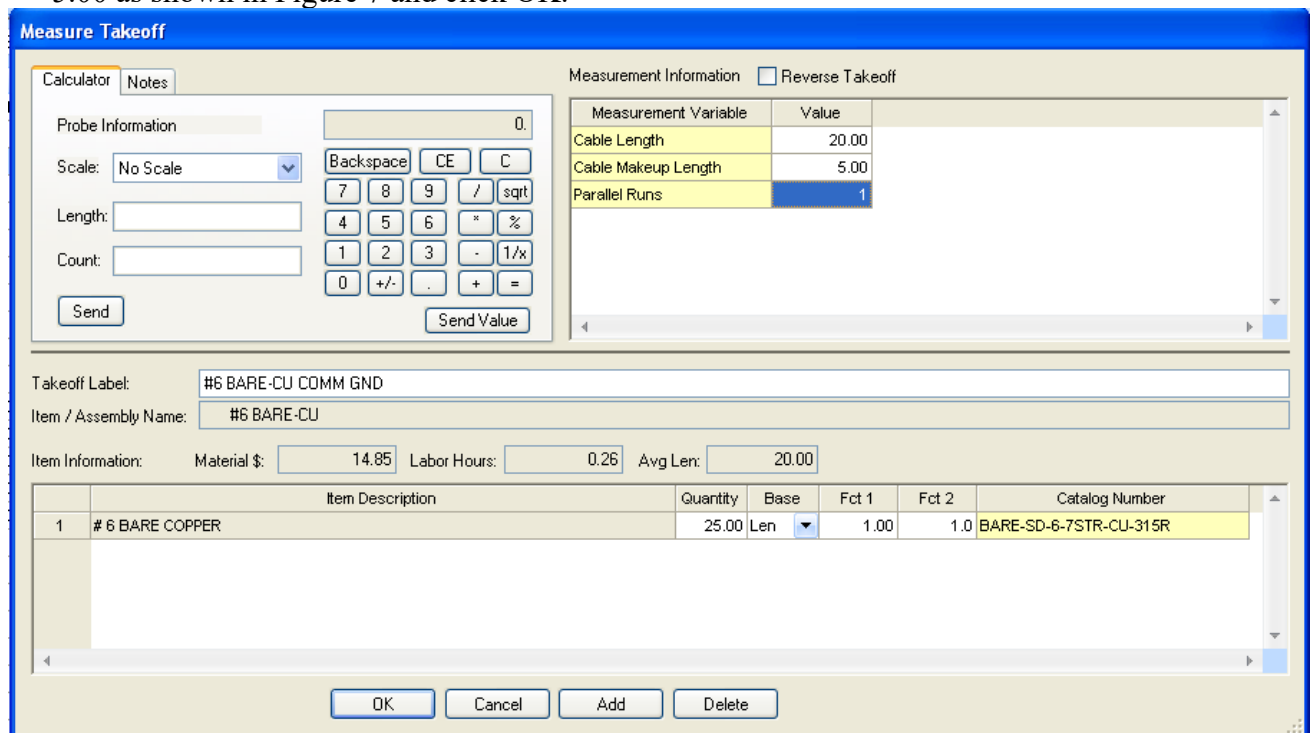

Figure 7
14. In the Measure Takeoff window change the Cable Length to 20.00 and Cable Makeup Length to 5.00 as shown in Figure 7 and click OK.